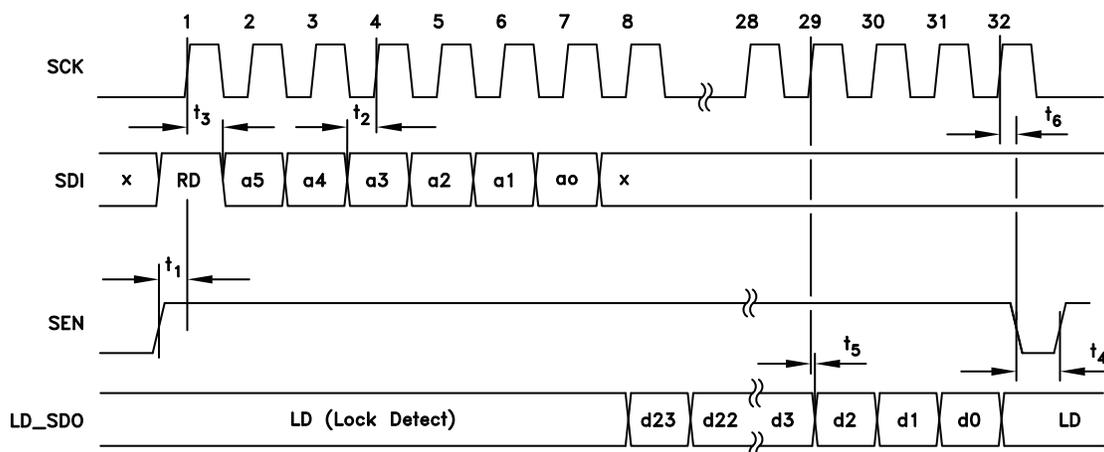

Figure 17. HMC Mode Serial Port Timing Diagram - READ
A typical HMC Mode READ cycle is shown in Figure 17.
- a. The Master (host) asserts both SEN (Serial Port Enable) and SDI to indicate a READ cycle, followed by a rising edge SCK. Note: The Lock Detect (LD) function is usually multiplexed onto the LD_SDO pin. It is suggested that LD only be considered valid when SEN is low. In fact LD will not toggle until the first active data bit toggles on LD_SDO, and will be restored immediately after the trailing edge of the LSB of serial data out as shown in Figure 17.
- b. The slave (synthesizer) reads SDI on the 1st rising edge of SCK after SEN. SDI high initiates the READ cycle (RD)